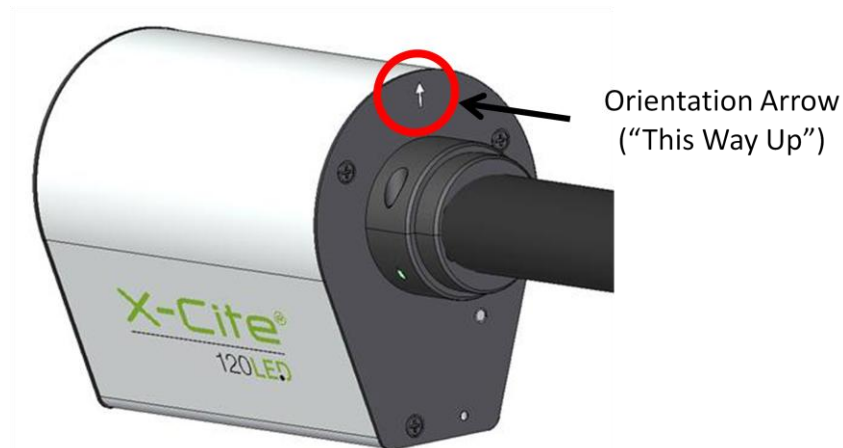

Figure 5 LED Head and Arrow in Correct Position
- iv. Olympus - Tighten the hex fastener(s) with the 3mm Hex Tool. Depending on the model, there may be one (1) fastener on the side, or two (2) fasteners located at the 10:00 and 2:00 positions. **Note for IX3-RFAL use: the epi-light train aperture MUST be properly aligned before turning on X-Cite 120LED, or heat damage may result** - see procedure in Olympus manual for assistance.
- b. Verify that LED Head is oriented with air vents facing downwards and the arrow label is pointing up (see figure 5). Adjust position if necessary – operating X-Cite 120LED with the LED Head at an angle will affect performance and may cause damage long term.